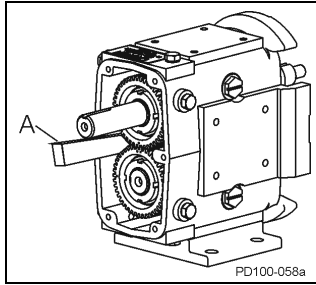

Figure 39 - Block Shaft Rotation
1. Wedge a wooden block, nylon dowel or rag (Figure 39, item A) between gears to prevent shafts from turning during gear locknut removal.